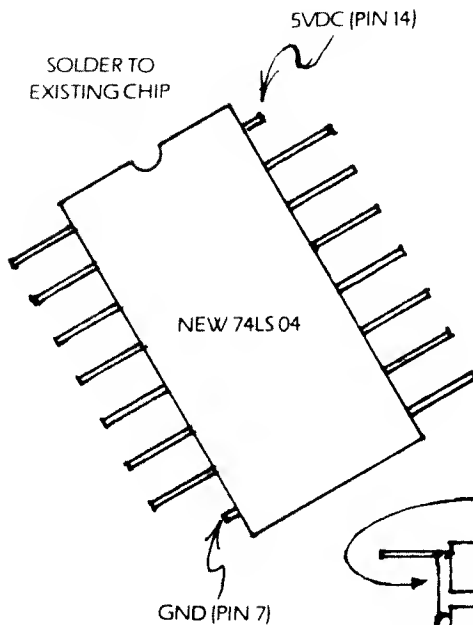

FIG. 1
**CURE 1:** Install a simple one I.C. Circuit on your logic board. This I.C. may be "piggy backed" on to another 7404 series chip for power by bending up all but the two power pins so that they are parallel to the top surface of the new I.C. and then connecting the power pins only to the existing chip. (See Fig. 1) Next connect the sync wires as shown in Fig. 2. (Note: Figure 2 shows a hookup for either **composite** or **separate** syncs.)